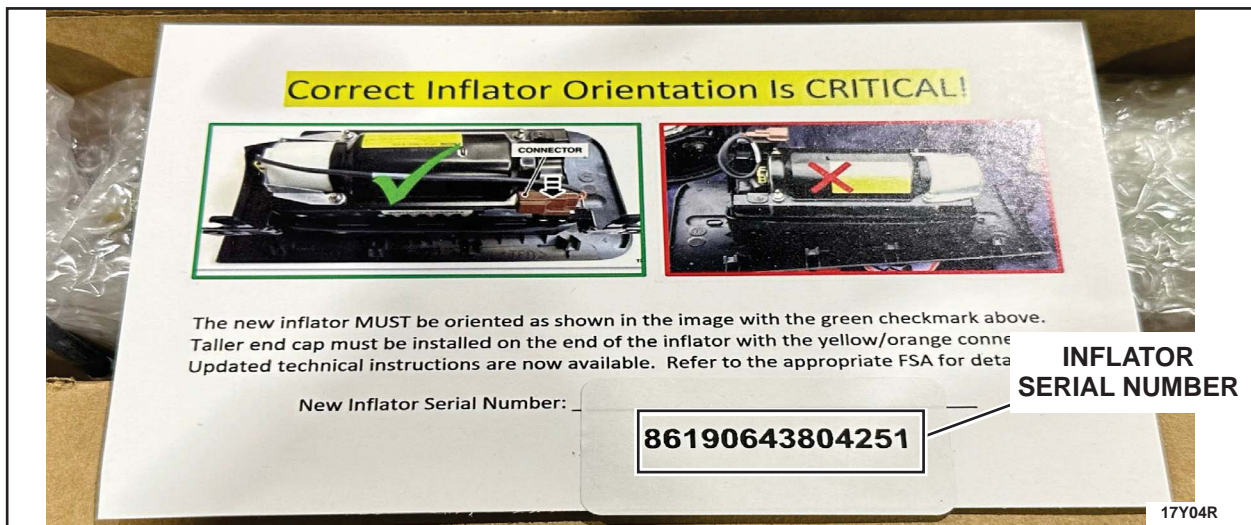

FIGURE 11
- For Claiming: **Record the 14 character serial number** of the new passenger airbag inflator or attach a copy to the repair order. See Figure 11.